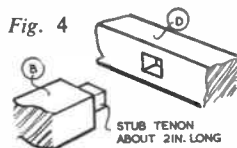

Fig. 4
The two centre-rails (D) are also tenoned in position, but stub tenons are made as shown in Fig. 4. They should be quite short, about $\frac{1}{2}$ in. will be sufficient.